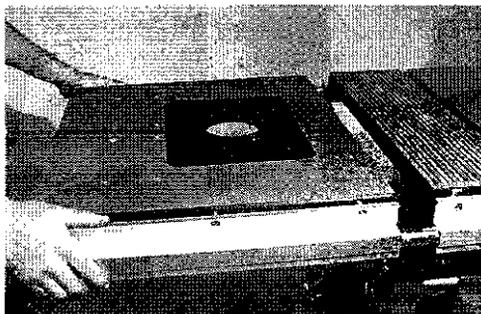

Figure 3
7. Tighten all the Knobs (11) of the Router Table, in place.
8. Make sure that the Front Rail (7) is positioned next to the Front Rail of the Saw Table, slide the Connector Tubes into the Saw Table Rails. (See Figure 3)